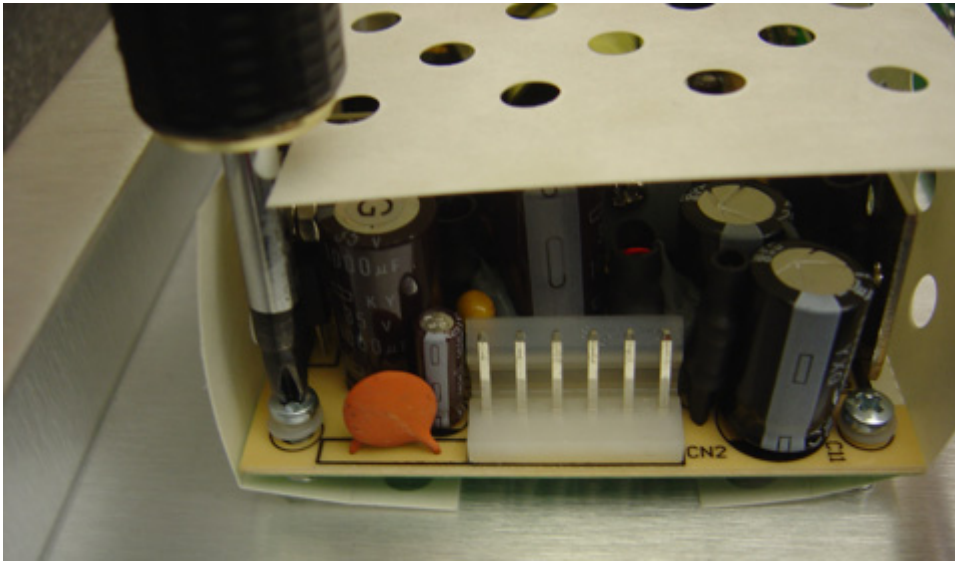

Figure 7 Tightening an Attaching Screw
13. Insert and tighten the four screws, as shown in Figure 7.